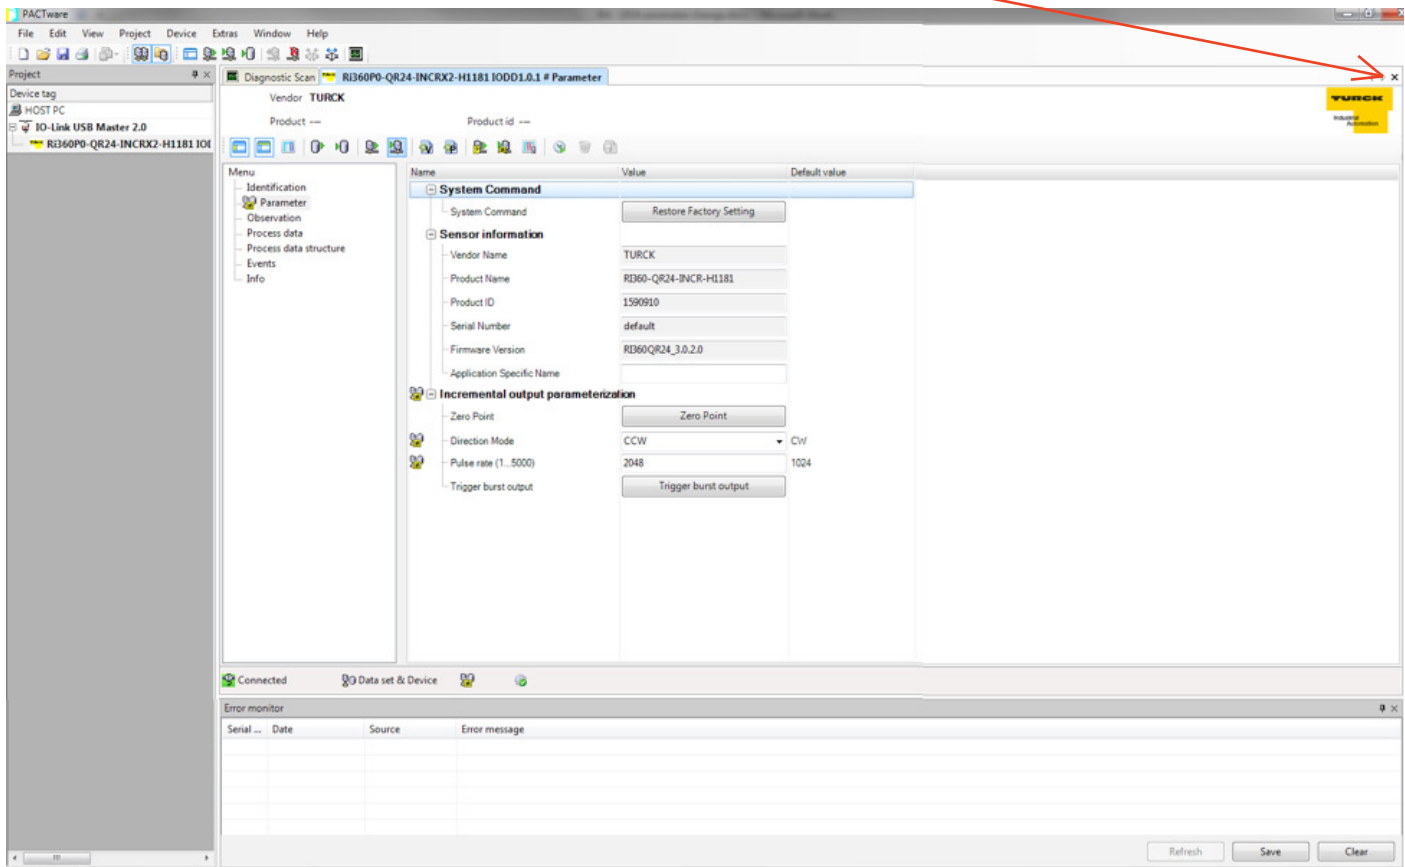

Figure 10.
(See Figure 10)
- (See Figure 10)